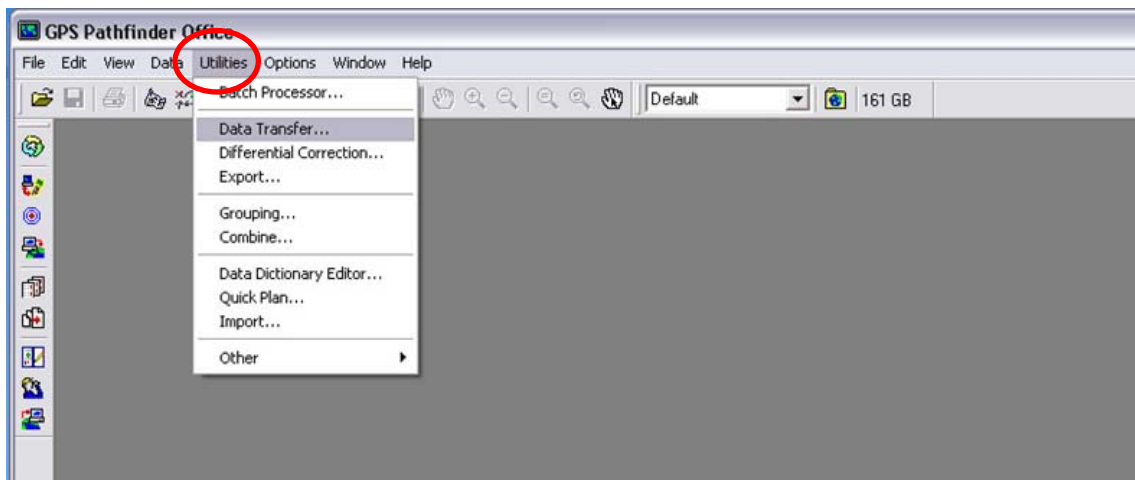

Figure 6. Data Transfer Menu
3. Go to the Utilities>Data Transfer menu or just click the icon on the left (Figure 6).